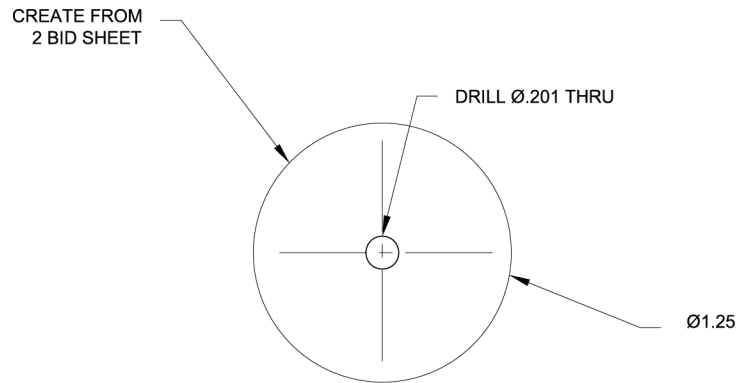

Figure C-14 2 BID Sheet Disk
9. Fabricate two disks from 2 BID sheet to the dimensions shown in Figure C-14.